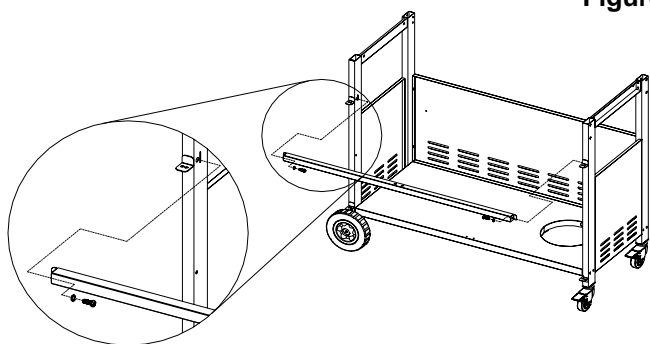

Figure 5
1. Attach the front cart frame beam to the grill cart using (2) $\frac{1}{4}$ x $\frac{3}{5}$ " Phillips head screw and (2) $\frac{1}{4}$ " lock washers. (Fig.5)